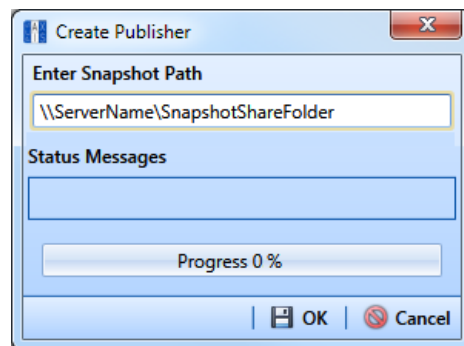

Figure 16-2. Create Publisher
- 1 Click **Tools > Synchronization > Create Publication** to open the *Create Publisher* dialog box (Figure 16-2).